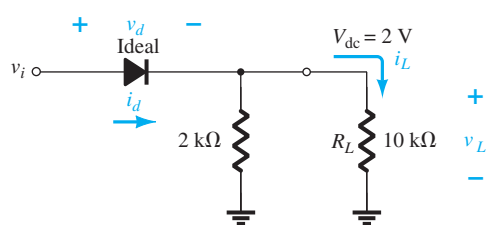

FIG. 2.169
24. Repeat Problem 22 with a 10 kΩ load applied as shown in Fig. 2.169. Sketch v_L and i_L .